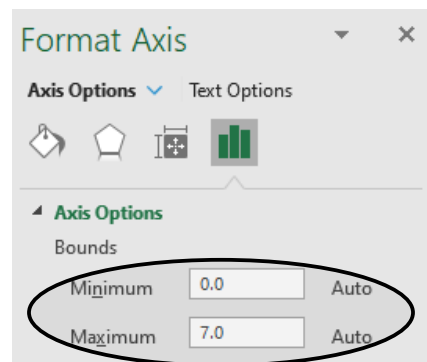

Figure 16: **Format Axis** toolbar with the **Axis Options** dropdown menu open with **Bounds** options circled
**Right-click** on the axis, then select **Format Axis**. In the **Axis Options** tab in the **Format Axis** window, click the **Axis Options** drop-down menu. The first option in the menu is the **Bounds** option as seen in Figure 16, with a text box for both **minimum** and **maximum**. These boxes are **automatically set** when the plot has data added to it and will remain that way unless explicitly changed. The range should be set to show a decent spread of the data, with the left-bottommost range of the data being set to **zero** when applicable. To reset to the automatically generated ranges, click the **Reset** button next to each range. The type of data the axis presents can be changed in the **Number** section, where both the **Type** of data and **Decimal Places** can be altered. Repeat this procedure with the other axis.